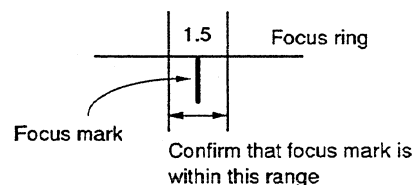

Fig. 7-37.
- 6) Manually rotate the focus ring to set the focus. Confirm that the focus mark is inside the range shown in Fig. 7-37 at this time.